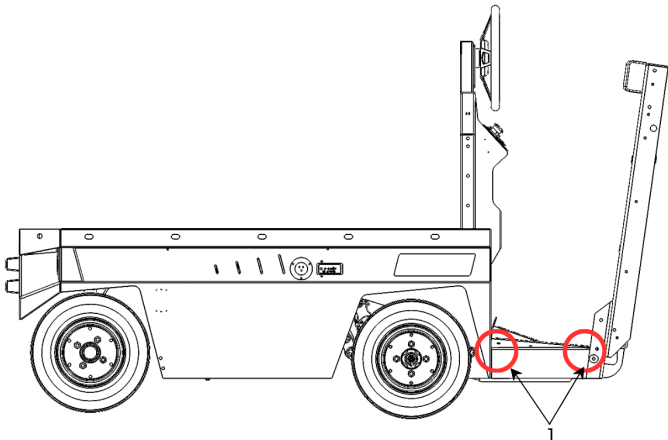

Figure 34. Side Panels.
- Side panels corners (1) (both sides). There is a possibility of cracks occurring in these corners as they undergo significant stress (see Figure 34).